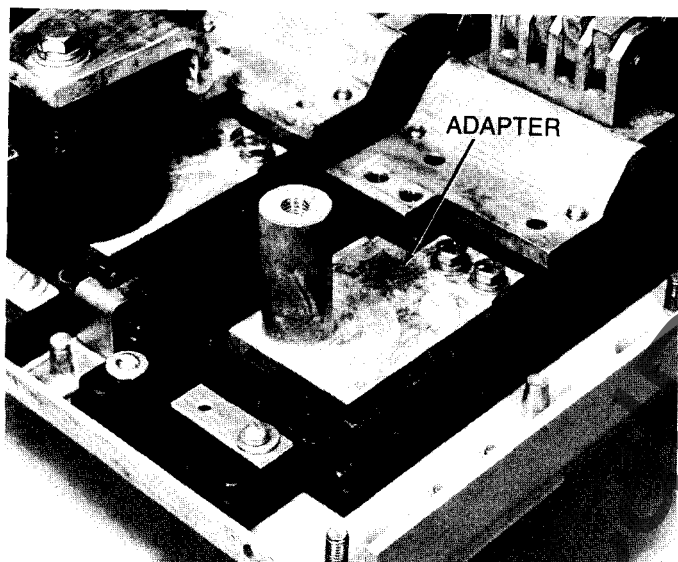

Fig. 3-3. Lower adapter connector
2. Install the lower adaptor connector, as shown in Fig. 3-3.